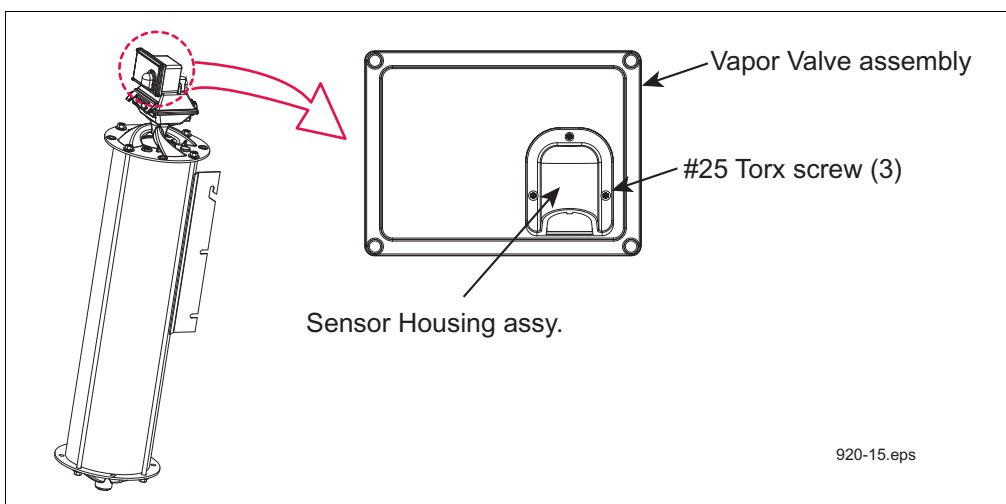

Figure 13. Removing sensor housing assembly
1. Remove the three #25 torx screws holding the sensor housing assembly to the vapor valve assembly (see Figure 13).